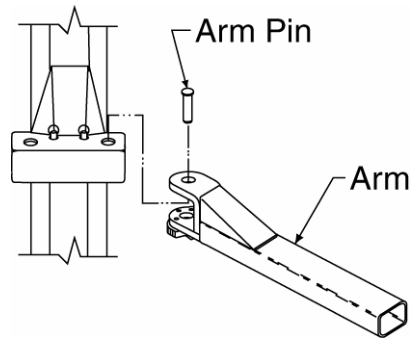

Figure 14
- A. Install the swing arms with the swing arm pins, figure 14.